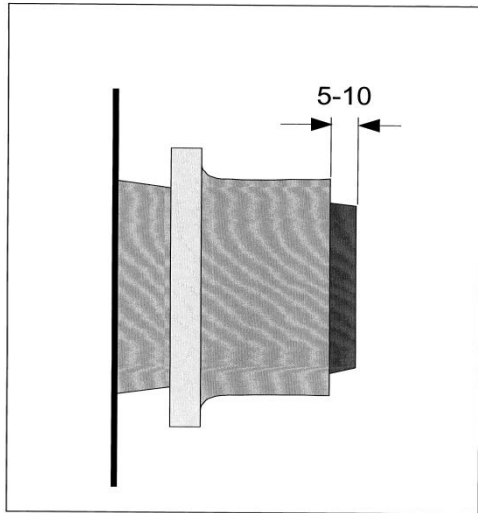

Figure 2
- 1.5 Push the collar onto the bushing and position as shown in Figure 2.